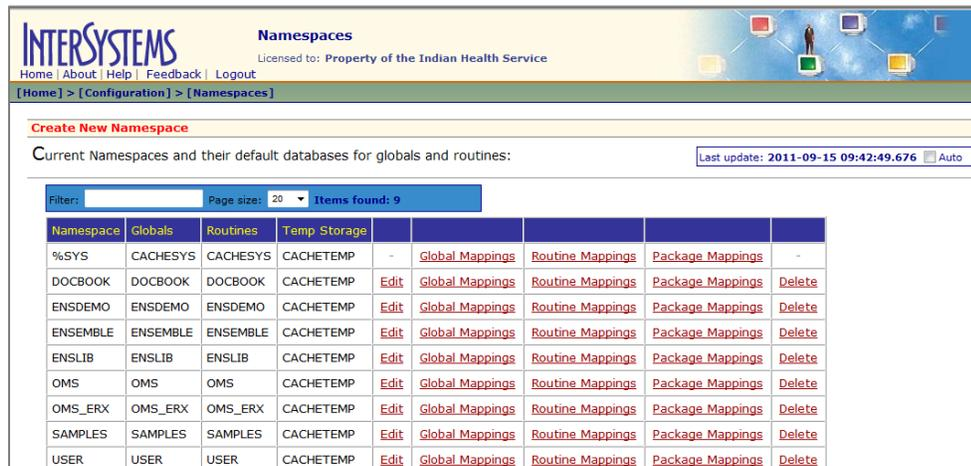

Figure 3-2: Namespaces window
3. Select **Configure Namespaces** from the **Go to** list displayed in Figure 3-2: